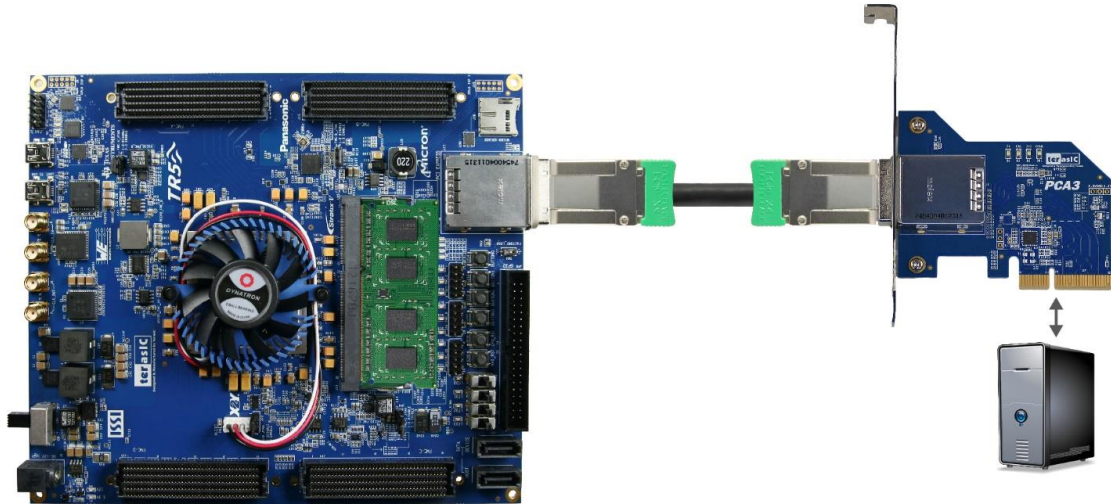

Figure 4-2 FPGA board connect to PC
2. Plug the PCIe adapter card(**PCA3**) into the PCIe slot on the PC motherboard. Use the PCIe cable to connect to the TR5 PCIe connector and the **PCA3** (See **Figure 4-2**)